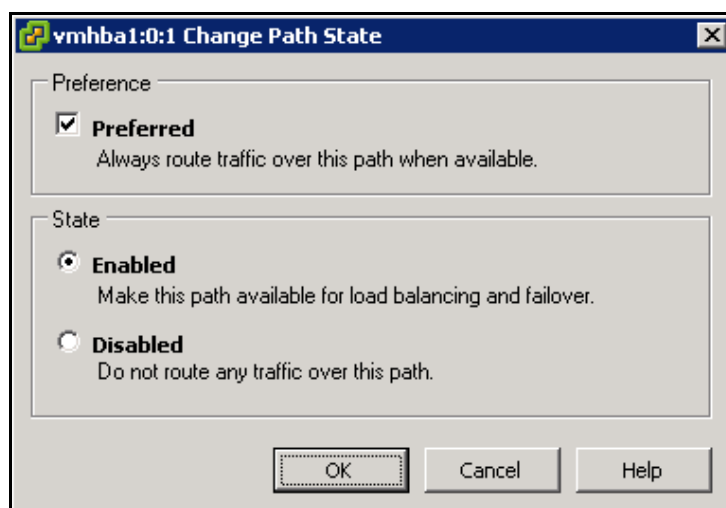

Figure 4-15: Change Path State Dialog Box
9. In the Manage Paths dialog box, click the **Change** button in the lower right side of the dialog box. The Change Path State dialog box appears (Figure 4-15 on page 4-15).